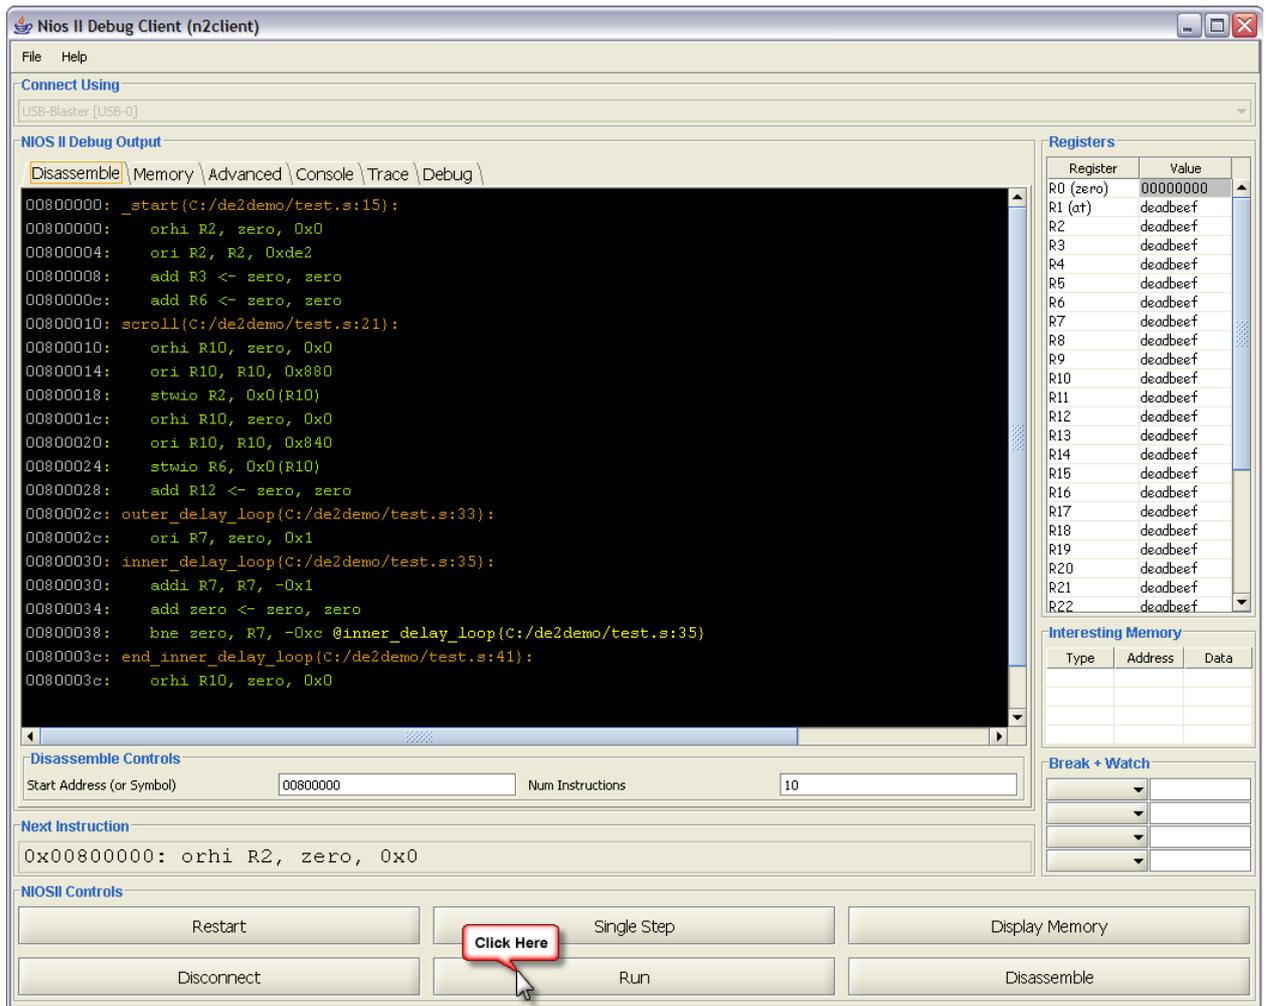

Figure 10: Source File loaded and Disassembled.
5. Finally click on the **Open** button. After a few seconds, the Nios II Debug client will download the machine code into memory. The first few instructions are then disassembled and displayed as shown in Figure 10.
1. Return to the **Disassemble** pane and Click the **Run** button as shown in Figure 10.